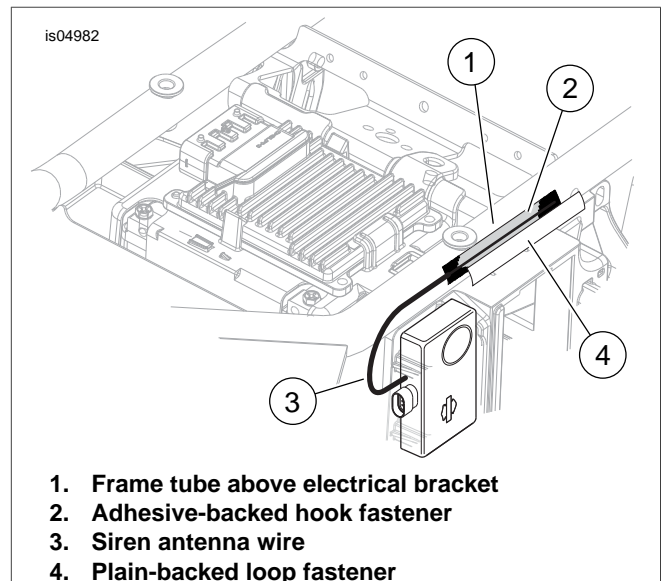

Figure 16. Siren Antenna Installation (2008-2013 FL Touring Models)
5. See Figure 16. Clean the outboard surface of the frame tube (1) above the electrical caddy with a 50-50 mixture of isopropyl alcohol and distilled water. Allow to dry completely.